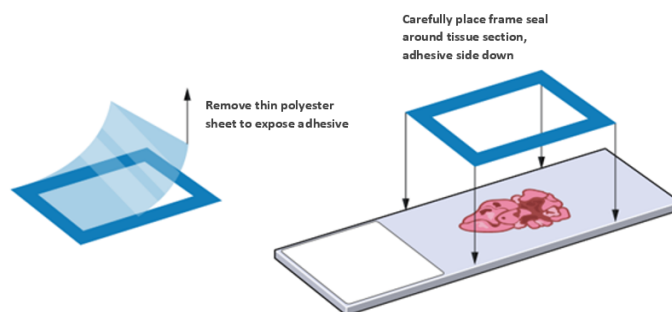

Figure 12: Apply Incubation Frame
4. Apply the incubation frame (Figure 12).